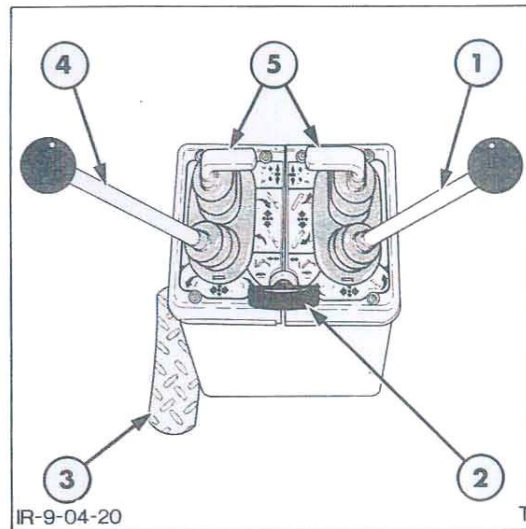

Figure 20
4. Where fitted remove the extendible dipstick control pedal, Figure 20, by removing the pedal pivot mounting bracket bolts below the cab floor and disconnecting the linkage beneath the pedal.